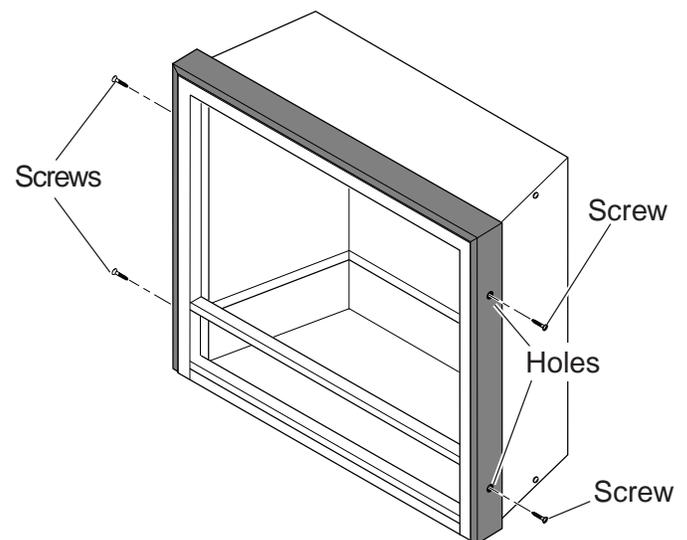

Figure 13 - Securing Trim to Heater with Four (4) Screws Provided
7. Align holes in assembled trim with holes in side of fireplace. Using a Phillips screwdriver, attach trim with four (4) screws provided — two for each side of fireplace. Tighten snugly. Refer to Figure 13.